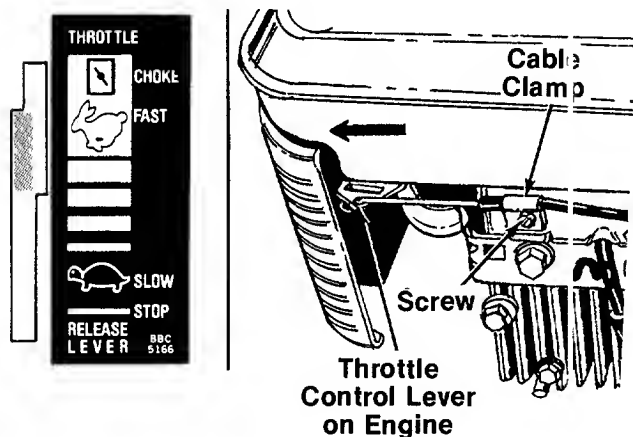

FIGURE 7.
8. Move throttle control lever on handle forward until it stops in "Fast" position. (**Do not** push all the way forward to "Choke" position.) See figure 7.
9. Slide the throttle control lever on the engine as far toward the outside of the engine as it will go **easily** as shown in figure 7. (**Do not** force it into the extreme outside position, which is the "Choke" position.)
11. Loosen the screw on the cable clamp shown in figure 7. Slip the control casing under the clamp. With the throttle lever on the engine still in the "Fast" position, tighten the screw to secure the throttle control cable. Be certain the clamp is positioned so it holds the cable in a straight line, parallel to the engine shroud.